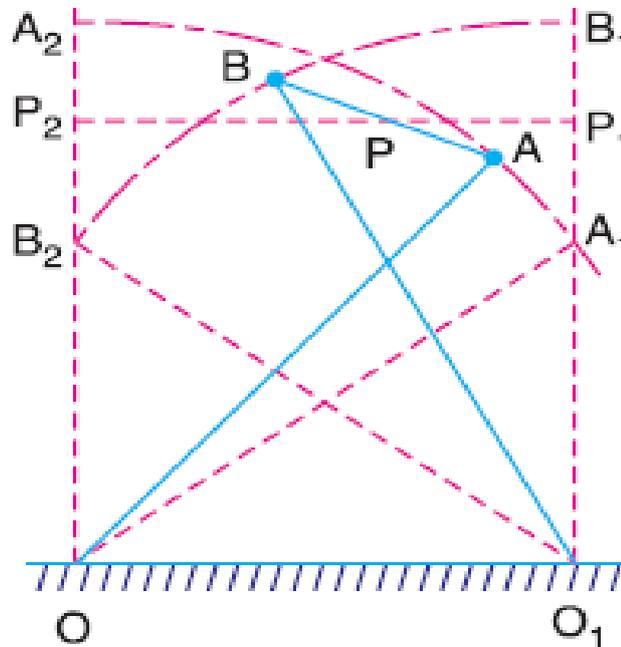

Fig. 2.8 Tchebicheff's mechanism
- It is a four bar mechanism in which the crossed links  $OA$  and  $O_1B$  are of equal length, as shown in Fig. 2.8.